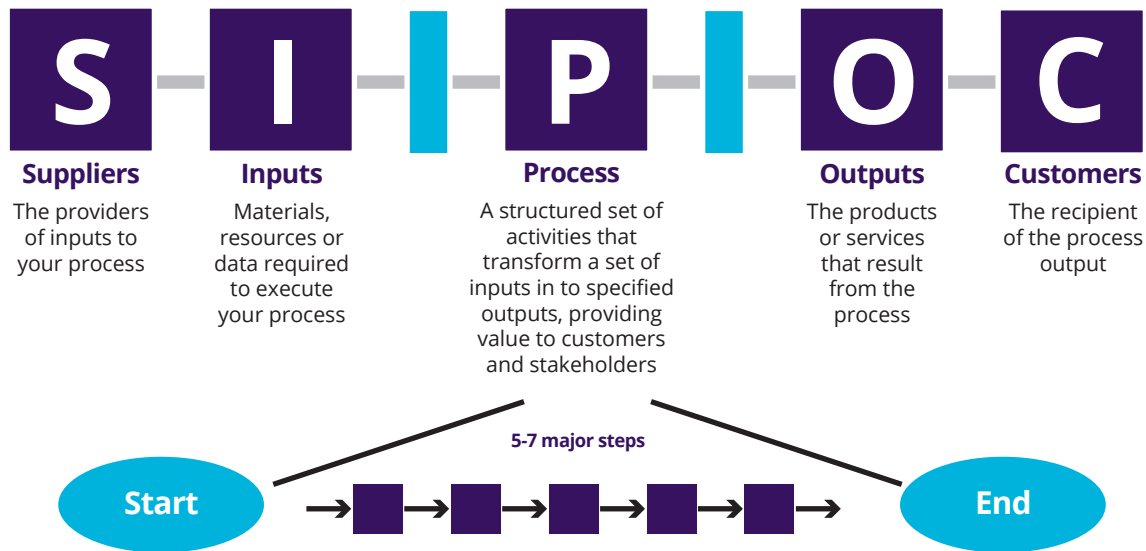

Figure 2. SIPOC Diagram
- DO assess whether a medical device manufacturing SOP is needed – use a SIPOC (Suppliers, Inputs, Process, Outputs and Customers) Diagram (see Figure 2) to help you to define the number of steps/procedures required